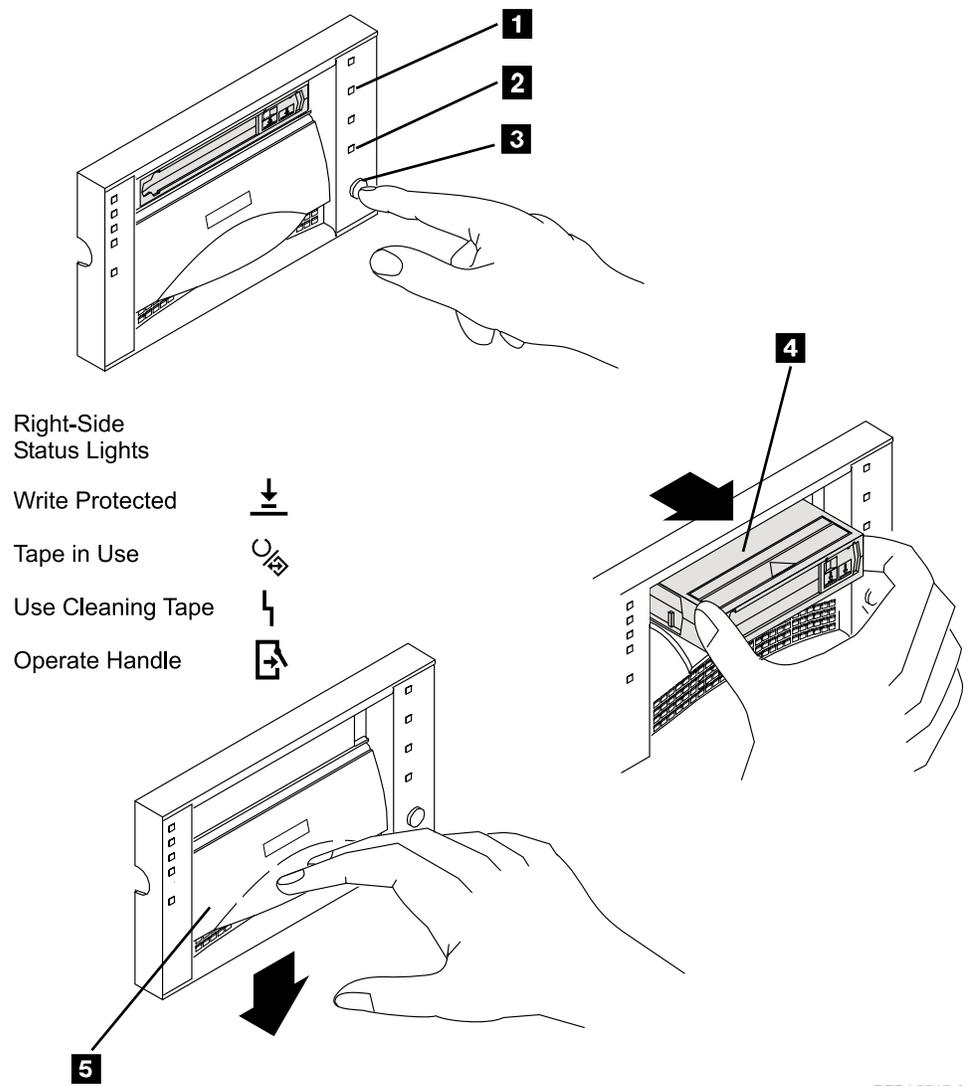

Figure 9. Unloading the Tape Cartridge
1. Press the unload button (see **3** in Figure 9 on page 21) or issue the appropriate system or application software command, such as `tctl -f/dev/rmt1 offline`.
2. When the green Operate Handle light (**2** in Figure 9 on page 21) comes on, lift the cartridge insert/release handle to eject the cartridge.
3. Grasp the tape cartridge and remove it from the tape drive (see **4** in Figure 9 on page 21).
4. Push down the cartridge insert/release handle (**5** in Figure 9 on page 21).